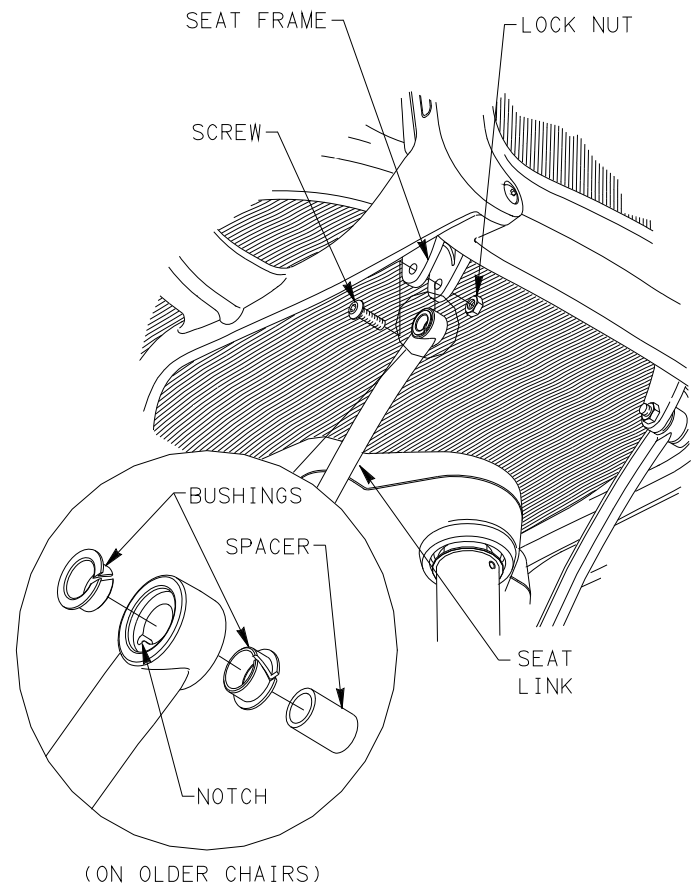

FIGURE 1
4. RECONNECT SEAT LINKS TO SEAT FRAME BY REINSTALLING SCREWS AND LOCK NUTS. ON OLDER CHAIRS, MAKE SURE SPACERS AND ALL BUSHINGS ARE PRESENT AND PROPERLY INSTALLED. IF NECESSARY, RESEAT BUSHINGS IN SEAT LINK END BY ORIENTING BUSHING WITH NOTCH IN SEAT LINK. USING 10 MM SOCKET, RATCHET WRENCH AND 4 MM HEX KEY, TIGHTEN LOCK NUT UNTIL FLUSH WITH END OF SCREW. SEE FIGURE 1.